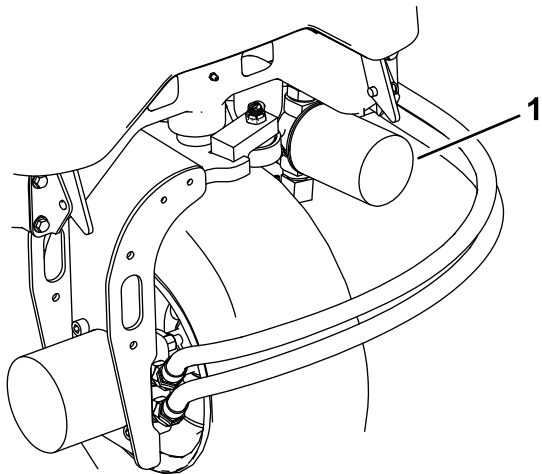
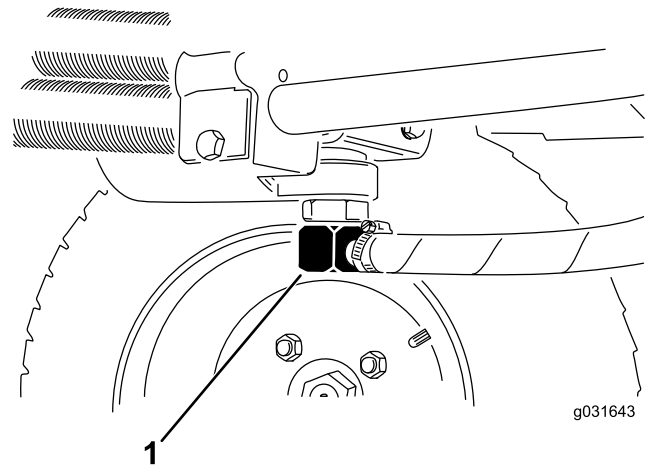

Figure 64
Figure 65
3. Clean around the filter-mounting area, place a drain pan under the filter, and remove the filter (Figure 64).
2. Disconnect the hydraulic line or remove the hydraulic filter and let the hydraulic fluid flow into a drain pan (Figure 64 and Figure 65).
3. Install the hydraulic line when the hydraulic fluid stops draining (Figure 65).